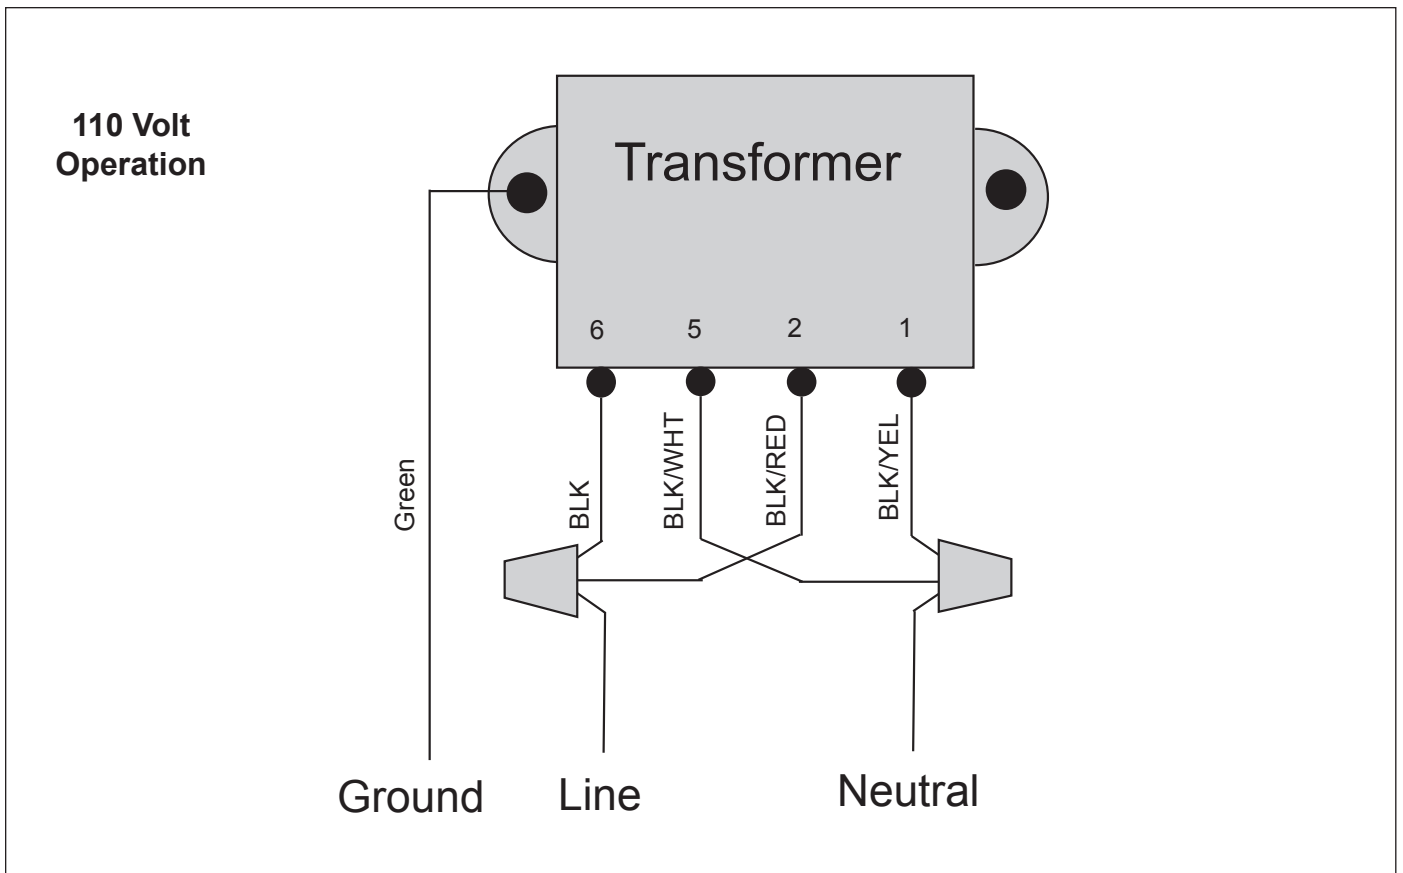

Figure 5. K-1100, K-2300, and LEV110CK/2G Modified Wiring for 110 Volt Operation
2. Connect the black/red wire with the black wire and connect to the line side of power. See Figure 5.
3. Connect the black/white wire with the black/ yellow wire and connect to the neutral side of power. See Figure 5.